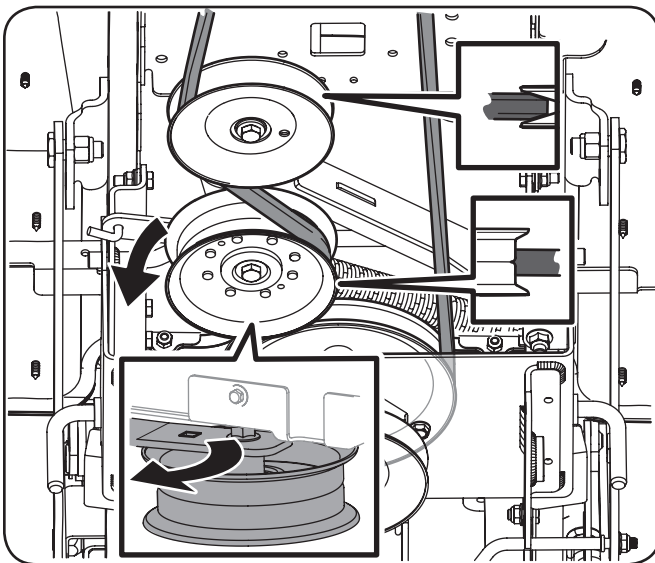

Figure 3-11
9. Route the belt around the carriage assembly. See Figure 3-11.